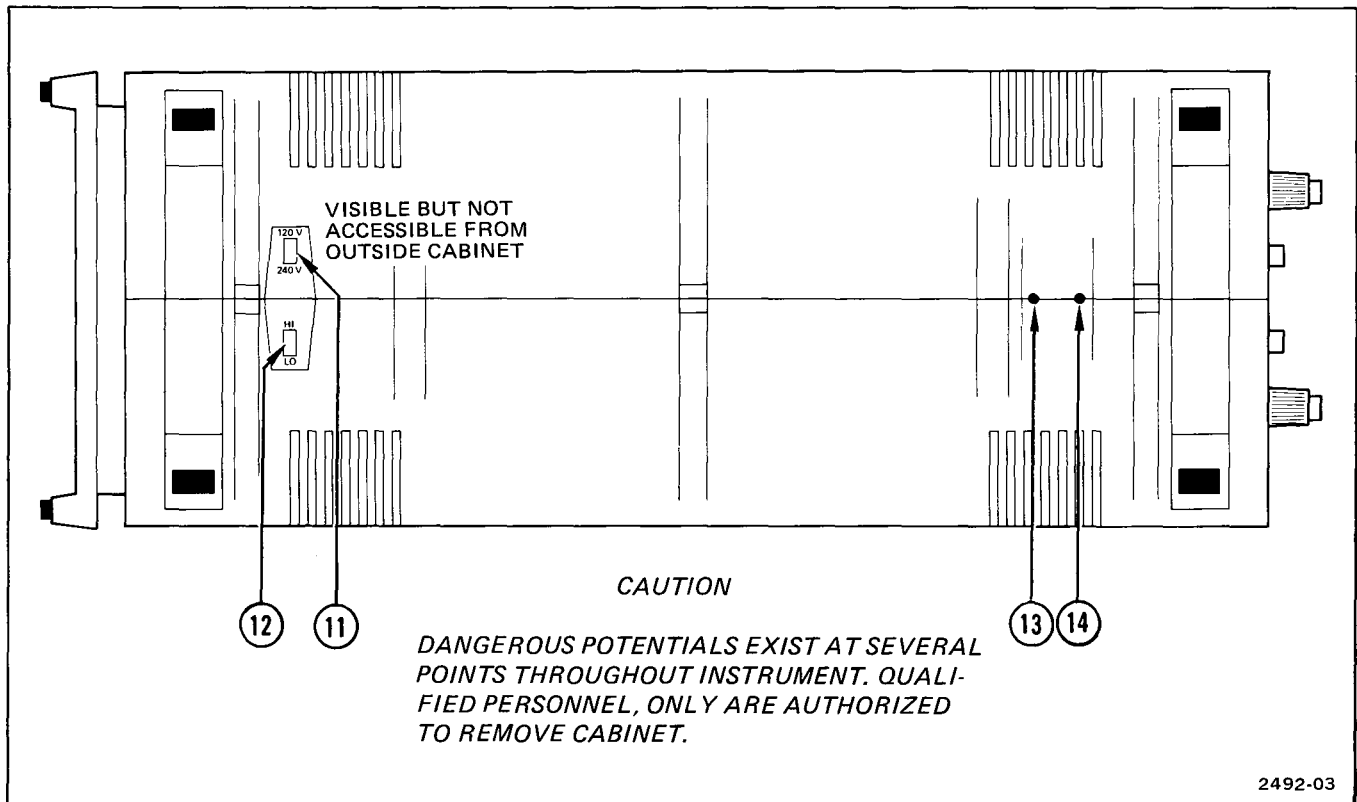

Fig. 2-4. Bottom of cabinet.
**Bottom of Cabinet (Fig. 2-4)**
- ⑪ **120 V/240 V**—Switch selects either 120 V or 240 V nominal power input voltage (is visible, but not adjustable from outside cabinet).
- ⑬ **CH 1 DC BAL**—Screwdriver adjustment. When properly adjusted, prevents trace shift when switching between adjacent positions of the CH 1 VOLTS/DIV switch.
- ⑫ **HI/LO**—Screwdriver actuated switch selects either high or low nominal line-voltage regulating range: LO selects 100 V or 220 V and HI selects 120 V or 240 V.
- ⑭ **CH 2 DC BAL**—Screwdriver adjustment. When properly adjusted, prevents trace shift when switching between adjacent positions of the CH 2 VOLTS/DIV switch.